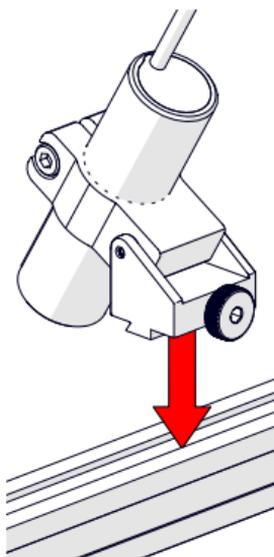

Fig. 16 - Mount to frame bar
3. Mount the optical guide to the frame bar (*Fig. 16*).